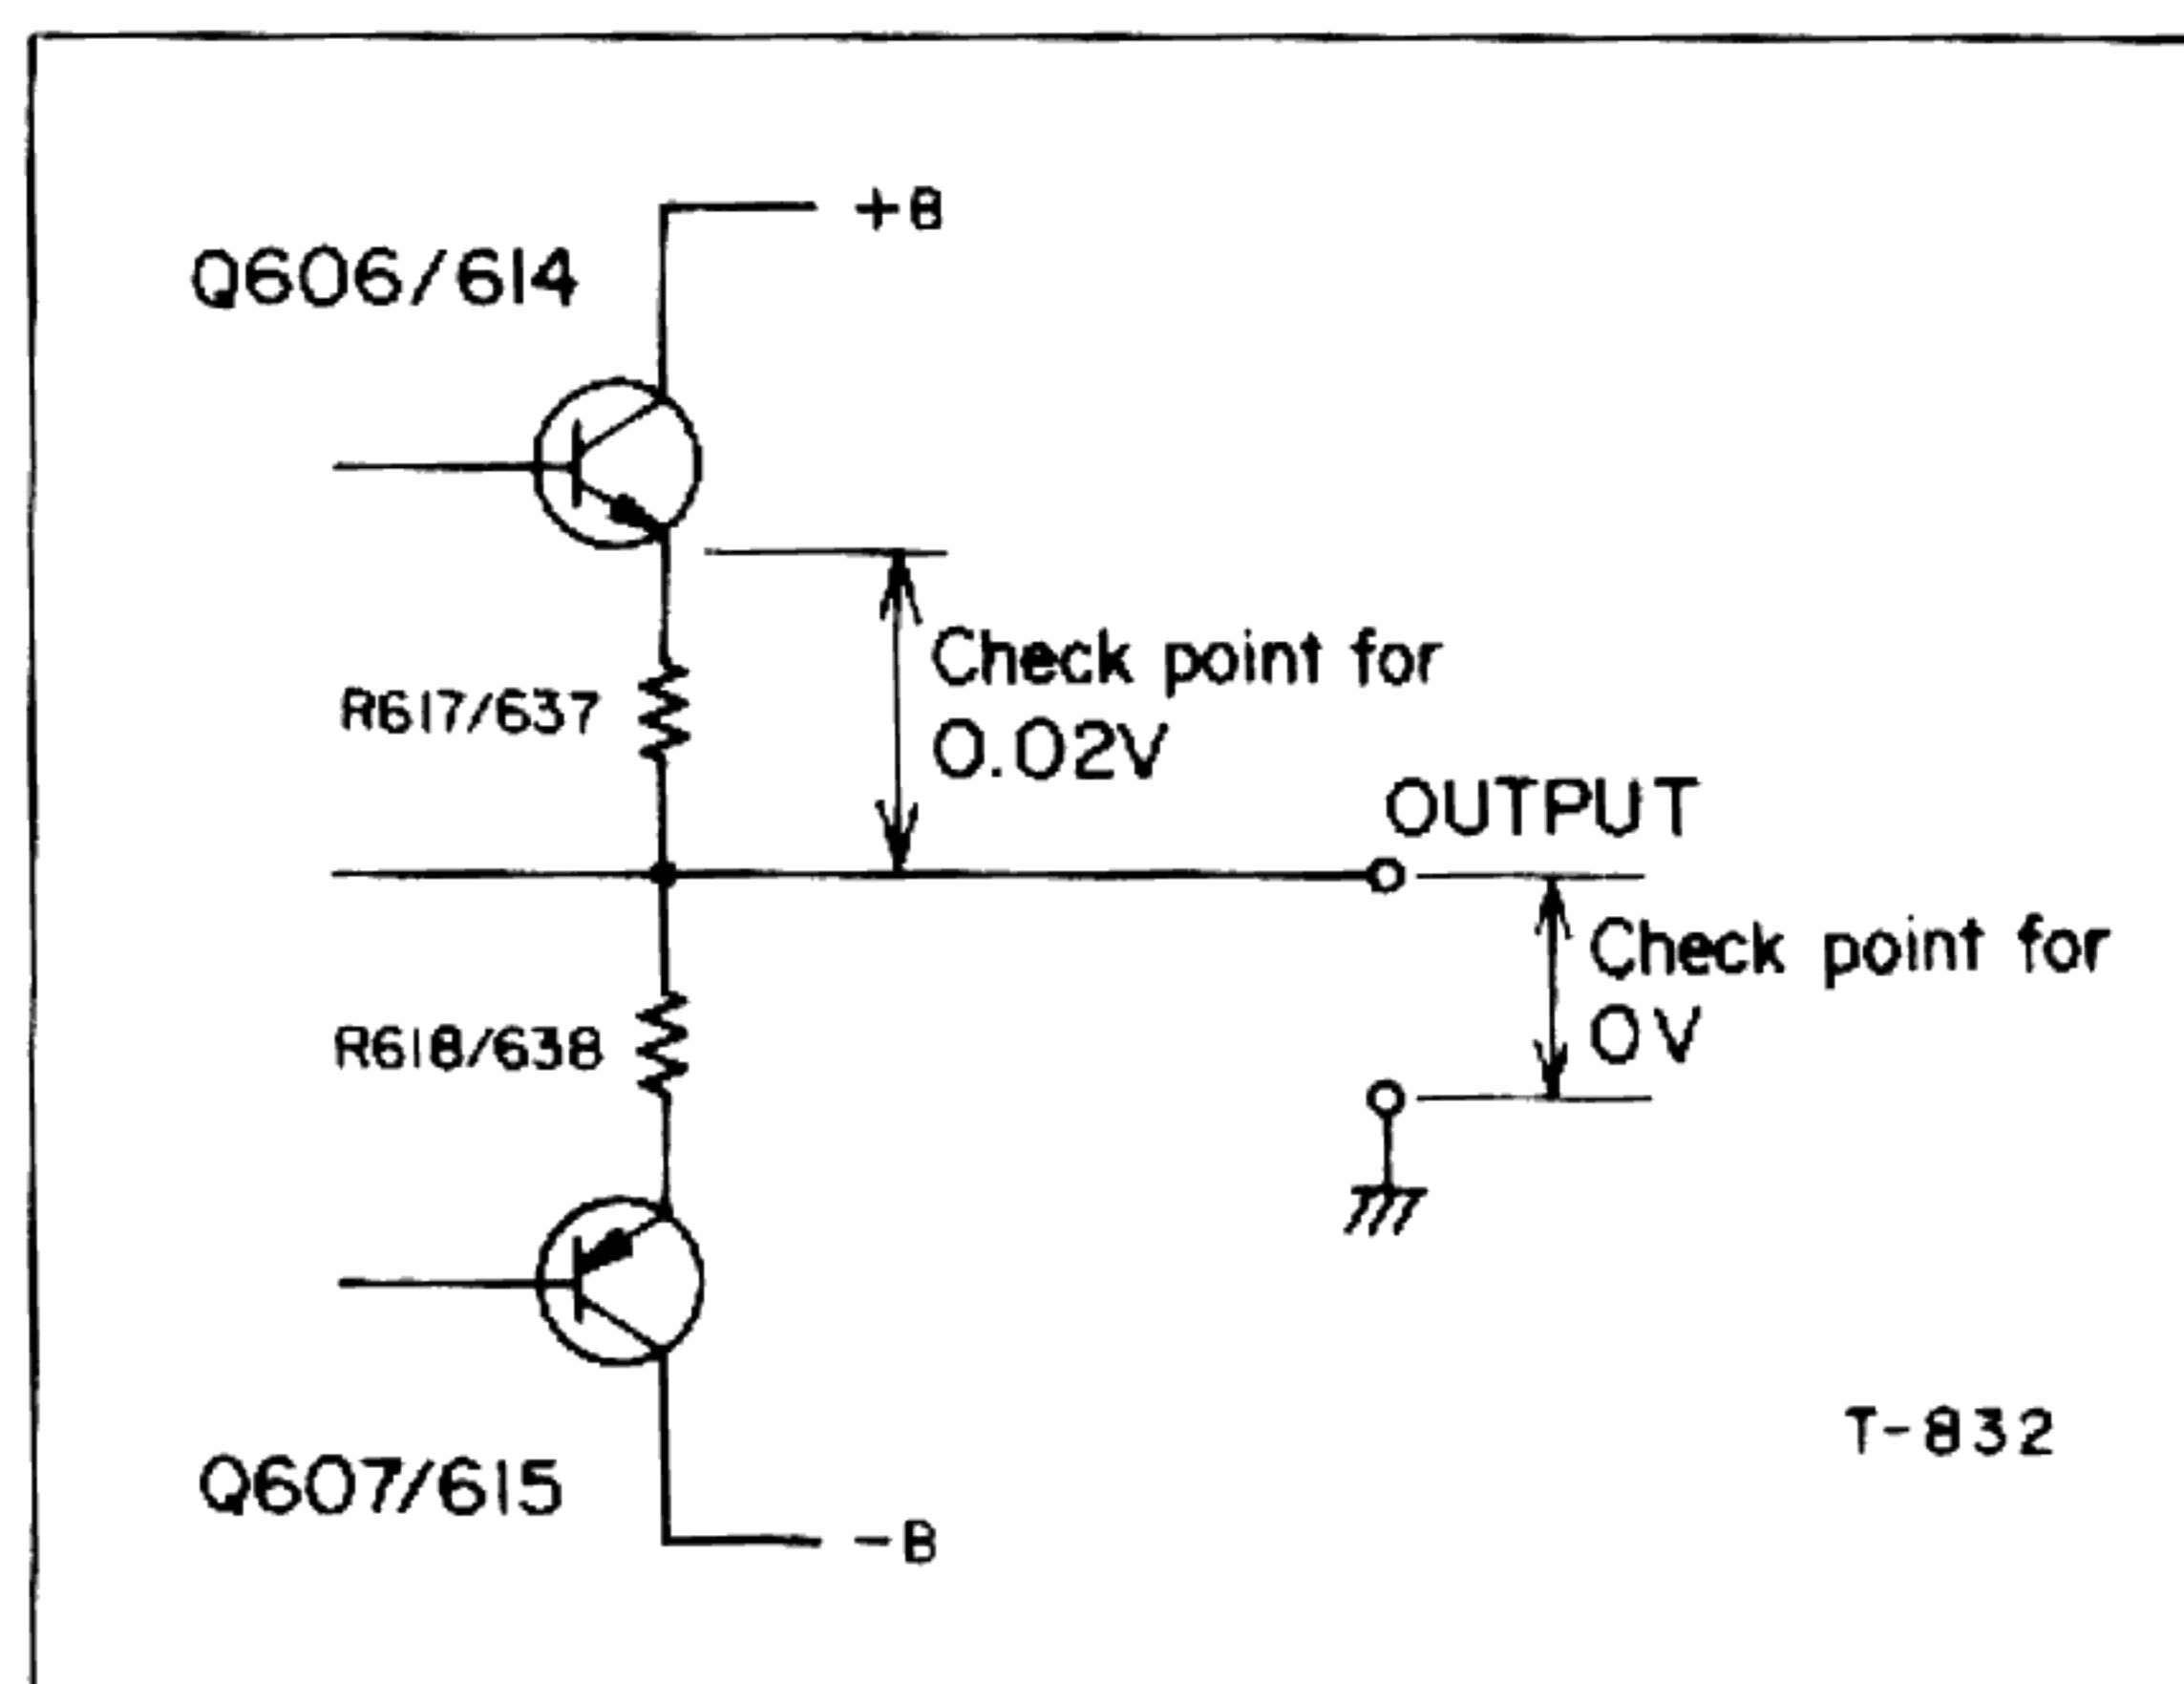

Fig. 3
1. Connect a VOM (tester) to following check point. (Fig.3).
2. Adjust VR-603 (L) and VR-605 (R) for 0.02V.
3. Adjust VR-602 (L) and VR-604 (R) for 0V.